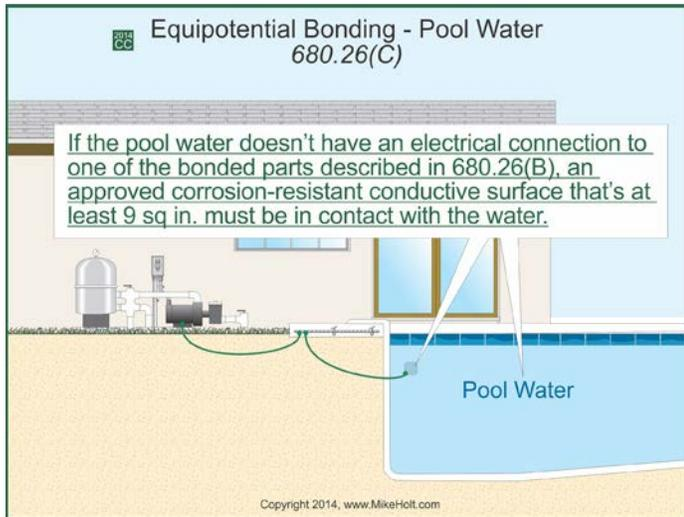

Figure 680-48
(C) Pool Water. If the pool water doesn't have an electrical connection to one of the bonded parts described in 680.26(B), an approved corrosion-resistant conductive surface that's at least 9 sq in. must be in contact with the water. The corrosion-resistant conductive surface must be bonded in accordance with 680.26(B), and be located in an area where it won't be dislodged or damaged or dislodged during normal pool usage. **Figure 680-48**